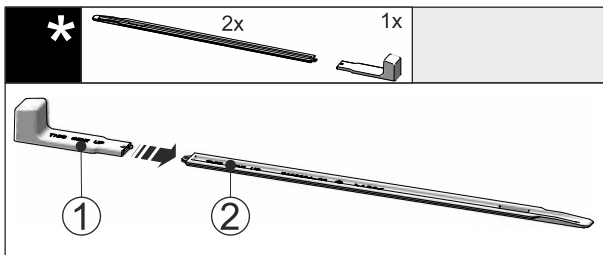

Fig. 46
► Attach the installation handle Fig. 46 (1) to the levelling rail Fig. 46 (2).